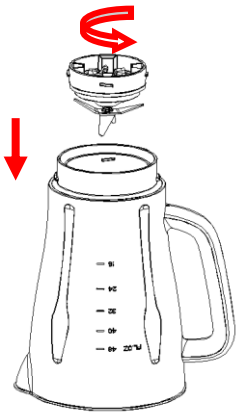

Fig.3
- 1) Invert the jar onto a level surface, holding the jar handle, put the seal ring and blade assembly onto the jar base bottom and secure the cutter head assembly by turning it anti-clockwise up to tightly (See Fig.3)